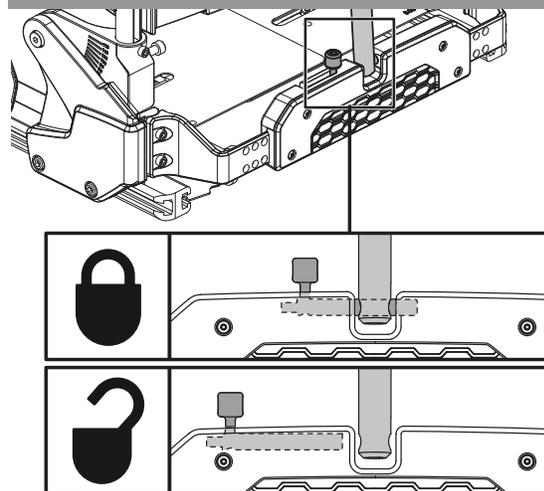

Figure 5. Flip-forward Back Canes (Detent Pin)
1. Remove the detent pin. **See figure 5.**
2. Reinstall the detent pin and ensure all components are secure. **See figure 5.**